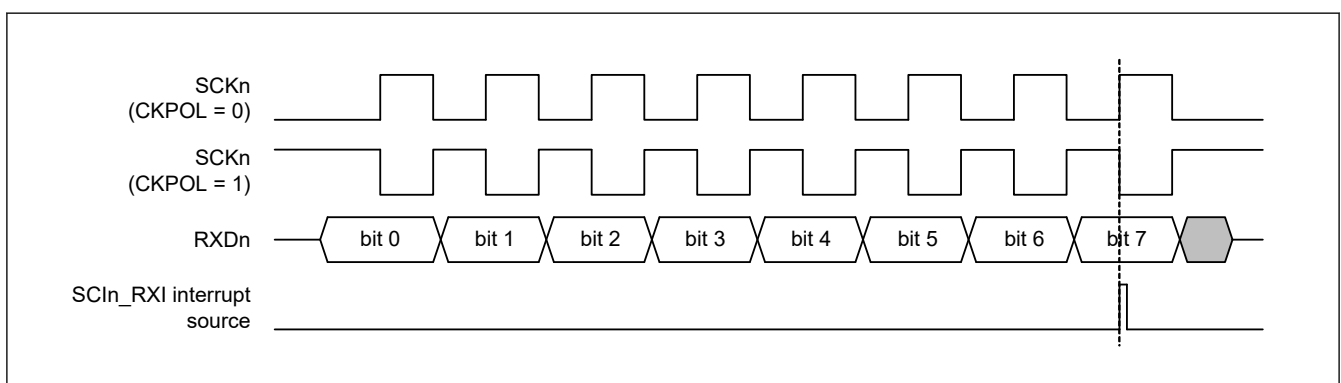

Figure 27.105 Timing of SCIn_RXI interrupt in simple SPI mode with clock delay
- For the clock delay setting (SPMR.CKPH bit is 1), the receive data full interrupt (SCIn_RXI) is generated before the final clock edge on the SCKn pin as indicated in Figure 27.105. If the TE and RE bits in the SCR register become 0 before the final edge of the clock signal on the SCKn pin, the SCKn pin is placed in the high-impedance state, so the width of the last clock pulse of the transfer clock is shortened. Additionally, an SCIn_RXI interrupt might lead to the input signal on the SSn pin of a connected slave going to the high level before the final edge of the clock signal on the SCKn pin, leading to incorrect operation of the slave.